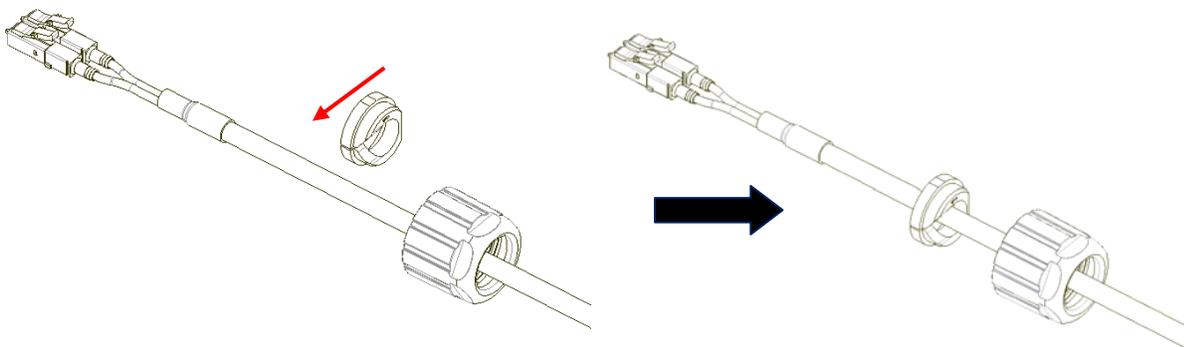

Figure 5
3. Insert the “split tightening cone” from side of the cable (Fig 5).